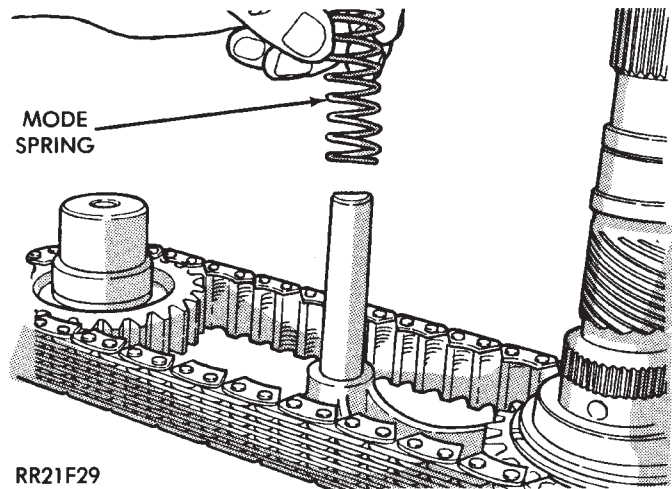

Fig. 63 Installing Mode Spring On Shift Rail
(10) Install mode spring on shift rail (Fig 63).